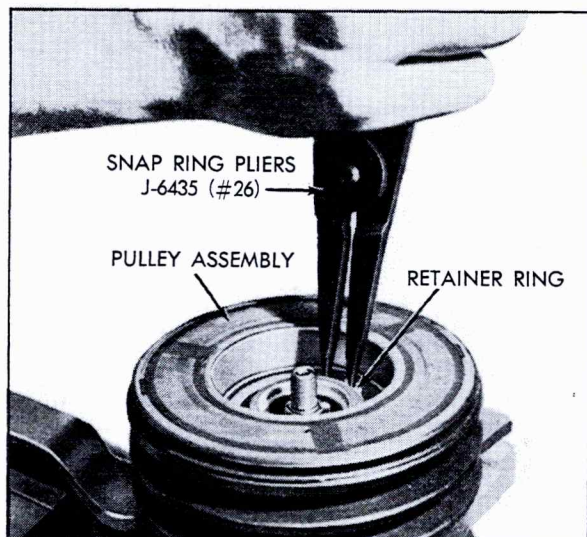

Fig. 1-42 Removing Pulley Retainer Ring
2. Remove pulley retainer ring using Snap Ring Pliers, J-6435 (#26), Fig. 1-42.